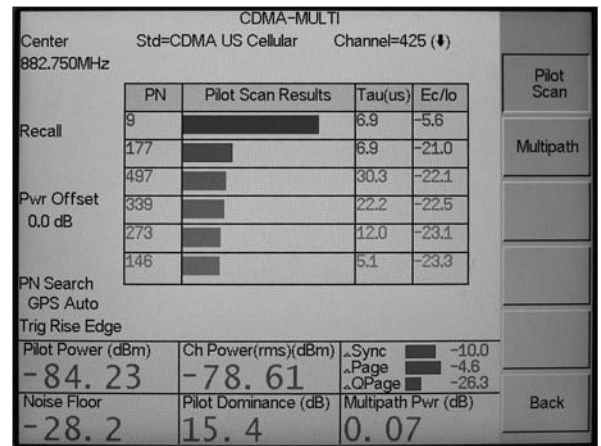

Figure 13. CDMA Pilot Scan display.
11. Press the Over The Air Meas. soft key and Pilot Scan soft keys to display the Pilot Scan readings (Figure 13).